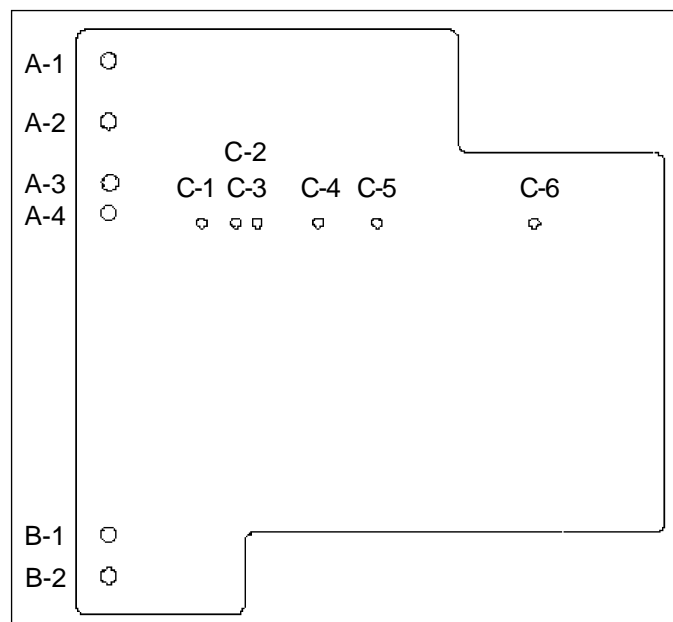

Figure 6-19 Front View of CloSure™ Tool Showing Mounting/Testing Hole Locations (6352C49H01)
Step 5 - Mount the transparent CloSure™ Test Tool with two bolts and washers. Refer to Figures 6-19, 6-20 and Table 6.4 for appropriate mounting holes. Hand tighten the bolts (Figures 6-9, 6-10, 6-19 and 6-20).
Step 6 - A Sanford® Sharpie® black fine point permanent marker, item no. 30001, is recommended for this next step. Place the marker tip in the proper hole ("C"). Refer to Figure 6-19 and make a heavy mark on the tape as shown in Figure 6-10.